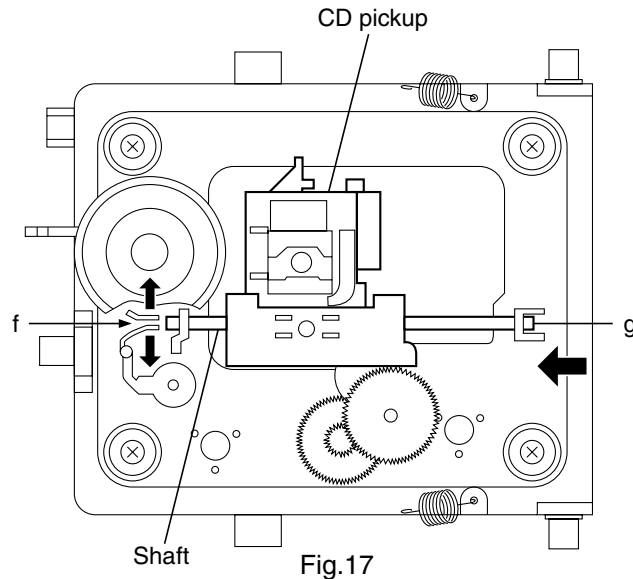

Fig.17
■ Removing the CD pickup (See Fig.17)